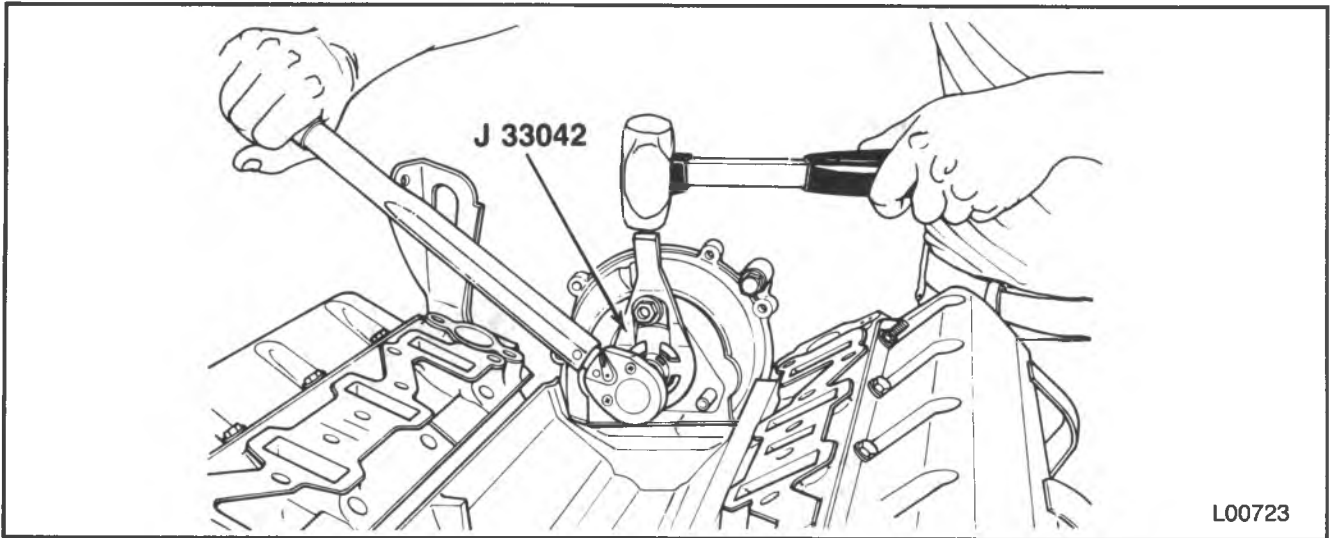

Figure 12 — Marking TDC on the Front Housing
4. Fasten J 33042 to the gear and tighten (figure 12).